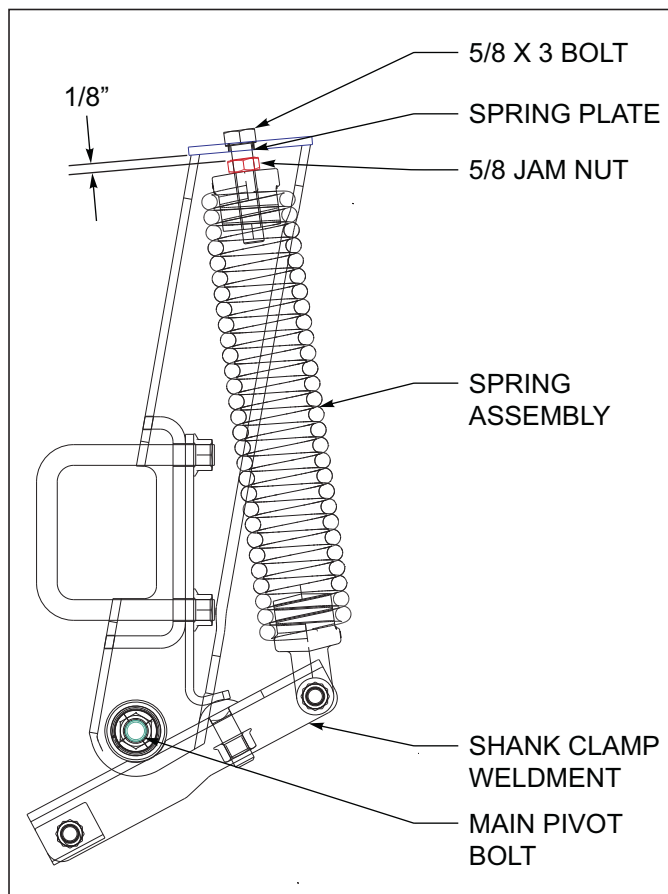

Figure 3-56: Spring Adjustment
*Verify that springs have been set to the proper tension. Adjust the spring until there is 1/8" gap between the top of the mount and locking jam nut on top of the spring *See Figure 3-56*. Lock the jam nut against the top of the spring, not the top of the mount. Torque main pivot bolt to 140 FT-LBS.*